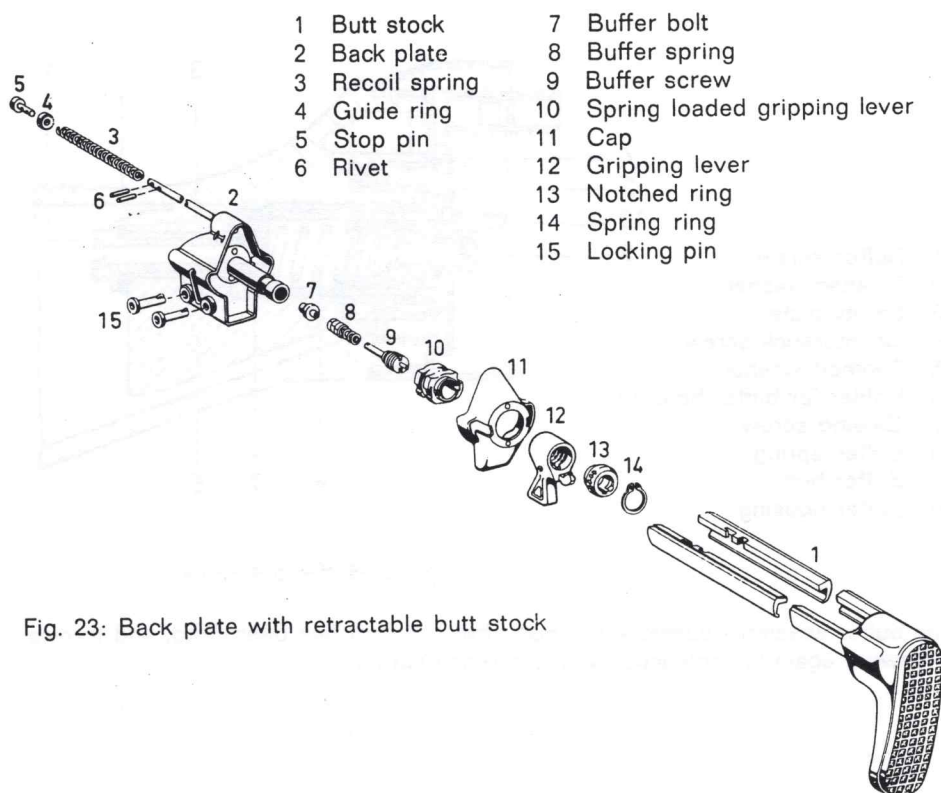

Fig. 23: Back plate with retractable butt stock
(2) Back plate with retractable butt stock (Fig. 23)